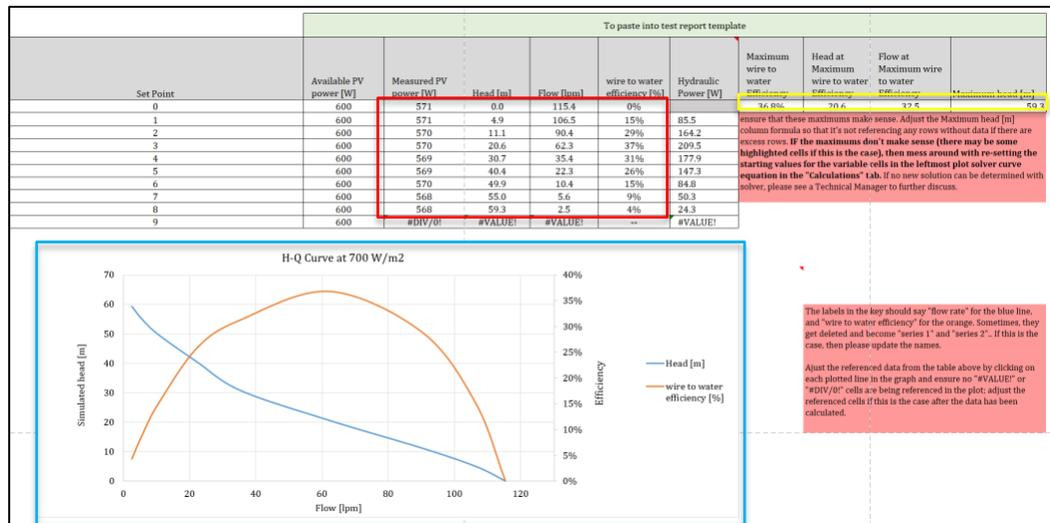

Figure 20: Section in the HeadRange spreadsheets to copy the data from.
3. In the reporting spreadsheet, the section for the head range test is called “Useful operating range per typical solar day (Head Range Test)” (See Figure 20 below).